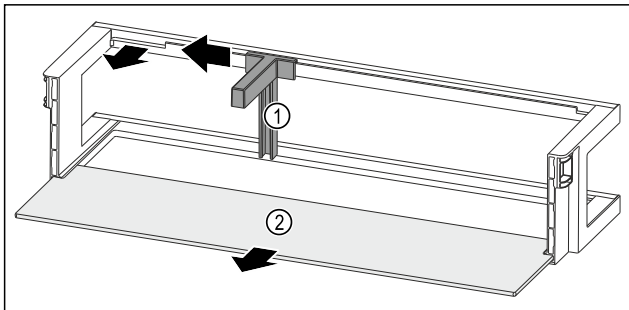

Fig. 261 Door rack with bottle holder and shelf
- ▶ Slide the bottle holder Fig. 261 (1) to the side as far as the recess.
- ▶ Remove the bottle holder Fig. 261 (1).
- ▶ Remove the shelf Fig. 261 (2).